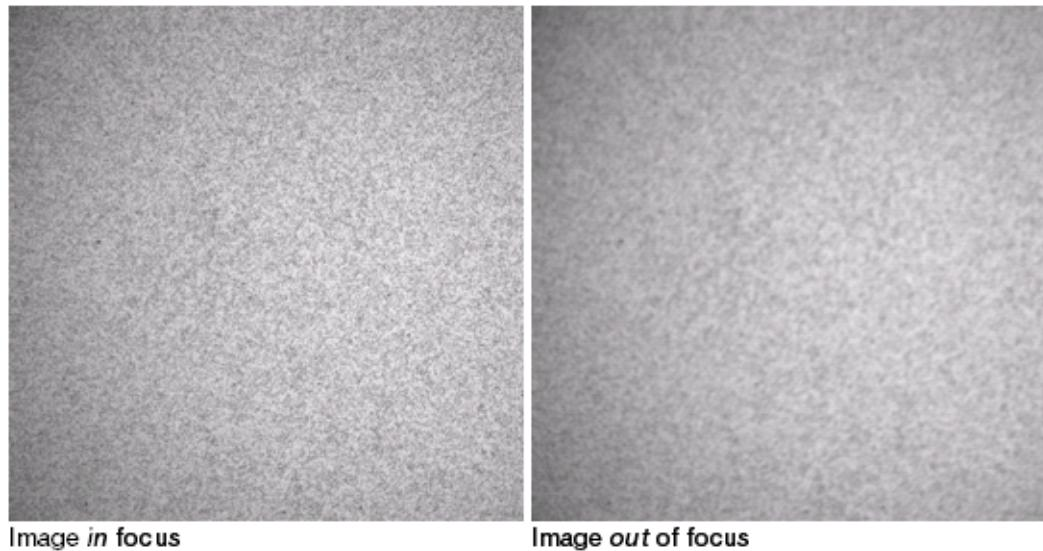

Figure 80 Examine the image on the screen.
3. When the Imager displays READY, click the **Acquire** button, then examine the image on the screen (see Figure 80 on page 106).